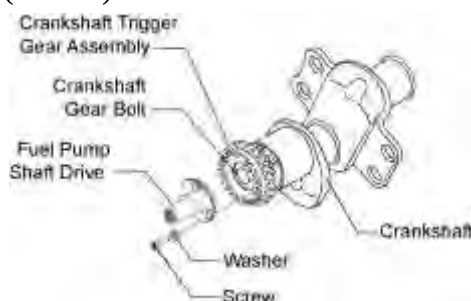

Figure 116
- (2) If clearance is found, remove the crankshaft gear bolt and crankshaft trigger gear assembly.
- (3) Make sure the mating surfaces of the crankshaft trigger gear assembly and crankshaft counterbore are clean and dry and that there is no debris.
- (4) Reinstall the crankshaft trigger gear assembly and crankshaft gear bolt. Repeat the initial torque and seating check above.
- (5) Try again to put a pointed 0.001 in. feeler gage or shim stock between the crankshaft trigger gear assembly pilot flange and crankshaft counterbore at each of the three scallops on the crankshaft trigger gear assembly pilot flange.
- K. Install the fuel pump shaft drive (Figure 116) with three screws and three washers. Torque the screws to 100 in.-lb. (11 Nm).